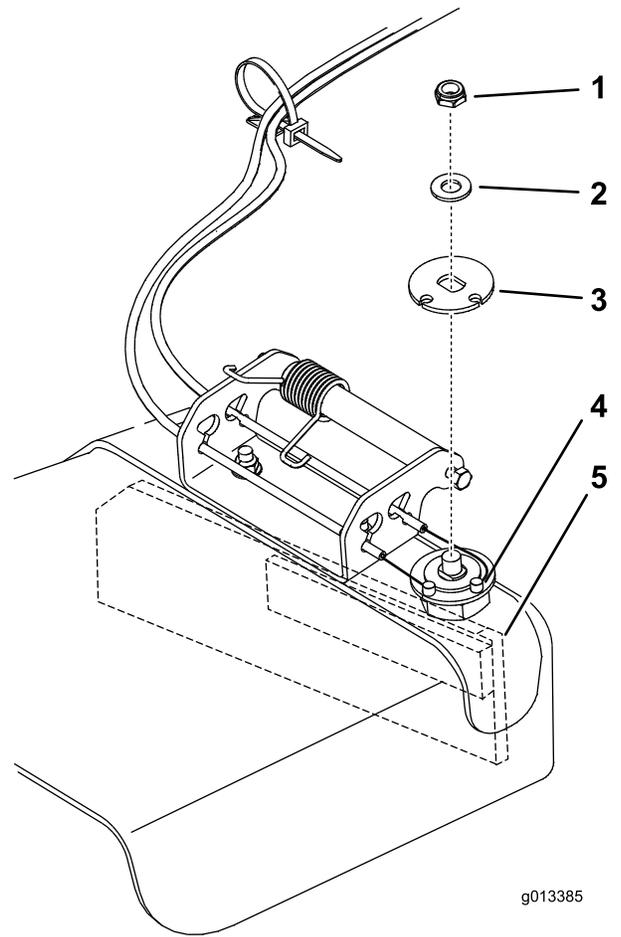

Figure 13
12. Install the cable end barrels into the lower cable plate and secure them with the upper cable plate, a washer and locknut (Figure 13)